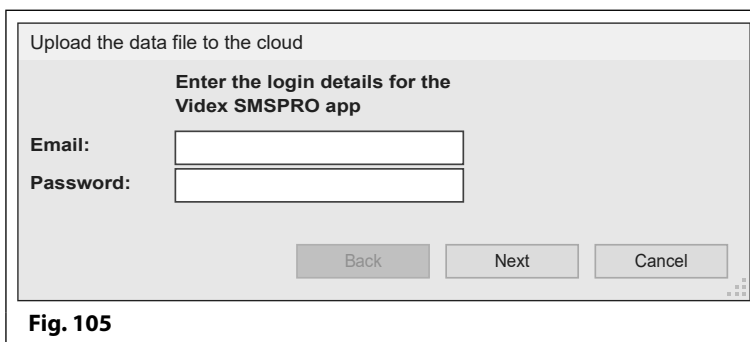

Fig. 105
2. After saving the .dat file click on **File** from the top menu and then select the **Upload data to cloud** option from the drop down menu. The **SMS Wizard PRO App** email and password login prompt window will appear, **Fig.105**.